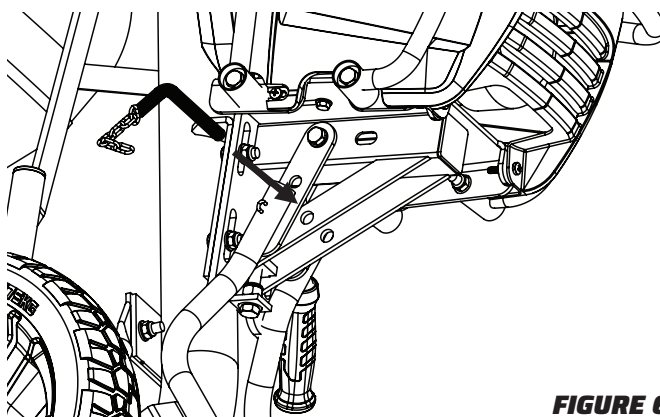

FIGURE 6
- Ensure locking pin is secure before transporting mixer. (Figure 6)